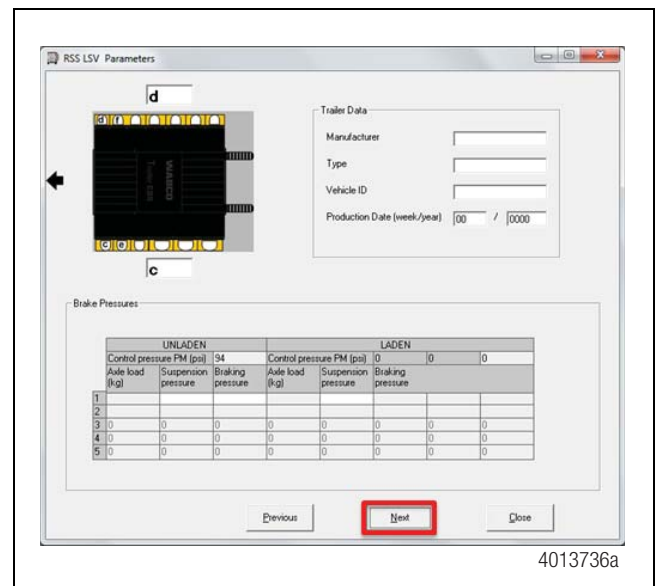

Figure 8
- From the RSS LSV Parameters screen, press the **Next** button at the bottom of the screen. Please use default settings unless directed otherwise by WABCO. Figure 8.